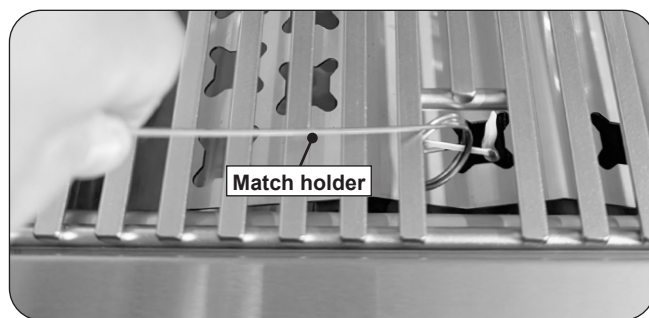

Fig. 33-2 - Manual lighting
2. Insert either a burning long-barrel butane lighter, a burning long-stem match, or a burning match held by a wire extension holder through the cooking grids to the burner (Fig. 33-2). For backburners (if equipped), hold the flame against the perforated material of the backburner.
4. If the burner does not light within five (5) seconds of turning the control knob, **immediately depress the knob and turn the valve to OFF**. **WAIT FIVE (5) MINUTES** before repeating steps 2 through 4 of the MANUAL LIGHTING instructions.